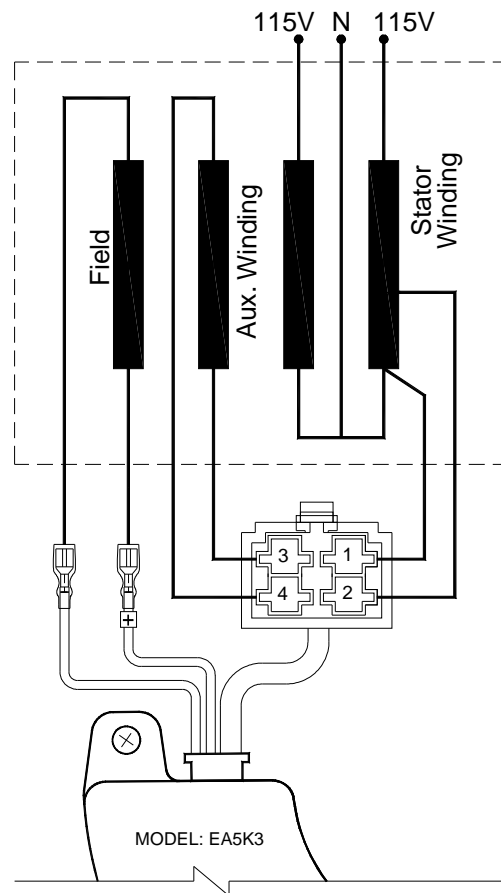

Figure 1 Connection
- 3.1 Figure 1, show the plug connections numbered 1, 2, 3 and 4.